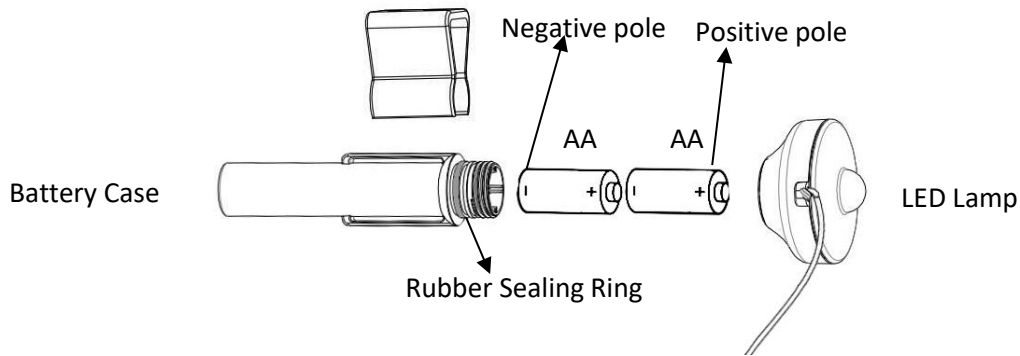

Figure 6
3.3.2 Next, remove the used batteries and replace them with 2 new alkaline batteries. Make sure to orient the batteries correctly, with the negative pole facing the battery case and the positive pole facing the LED lamp. Refer to Figure 6 below for guidance.